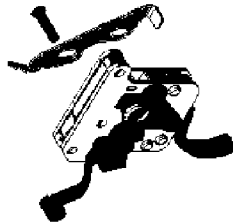

Figure 10
11. Insert the **safety pivot pin** through the holes in the bolt stop release, trigger housing and safety and push it until the shoulder contacts the left hand side plate of the trigger housing as shown in Figure 10. The bolt stop release pin will be pushed out of the trigger housing.